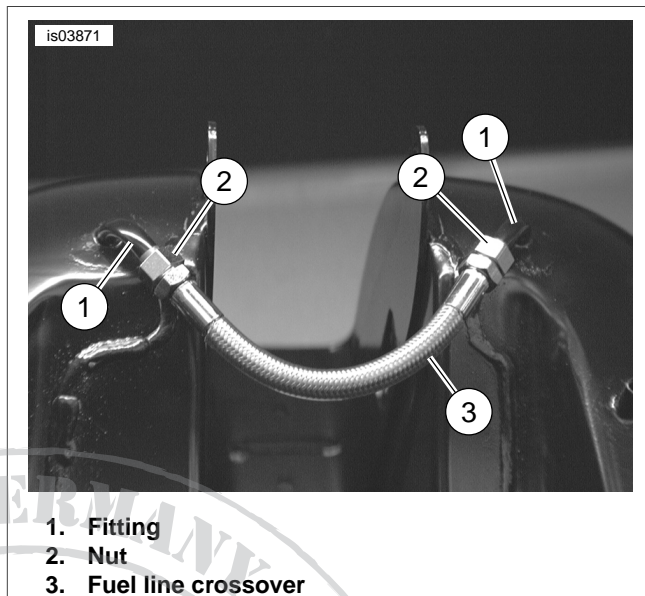

Figure 1. Install Braided Line (Typical) (Tank removed for illustration purposes only)
6. For ALL models **except 1986 through 1999 Softails**: See Figure 1. Following the same routing as the original crossover hose, install the braided line from the kit to each of the nuts.